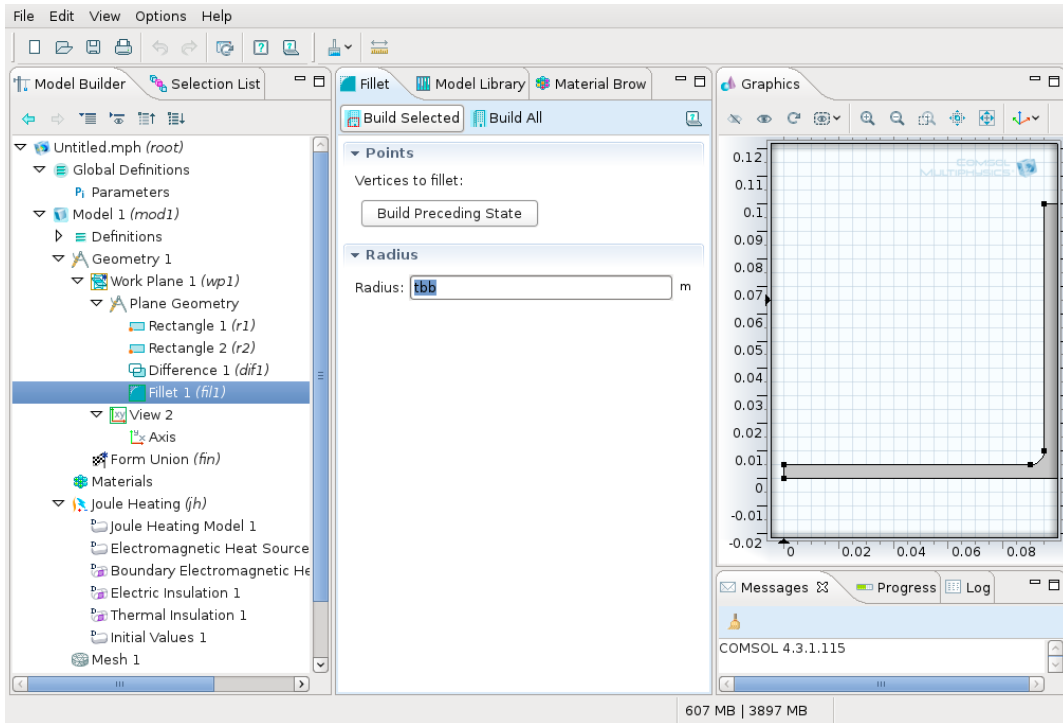

Figure 17: Rounding the internal corner.
- click the **Build Selected** button (Fig. 17).